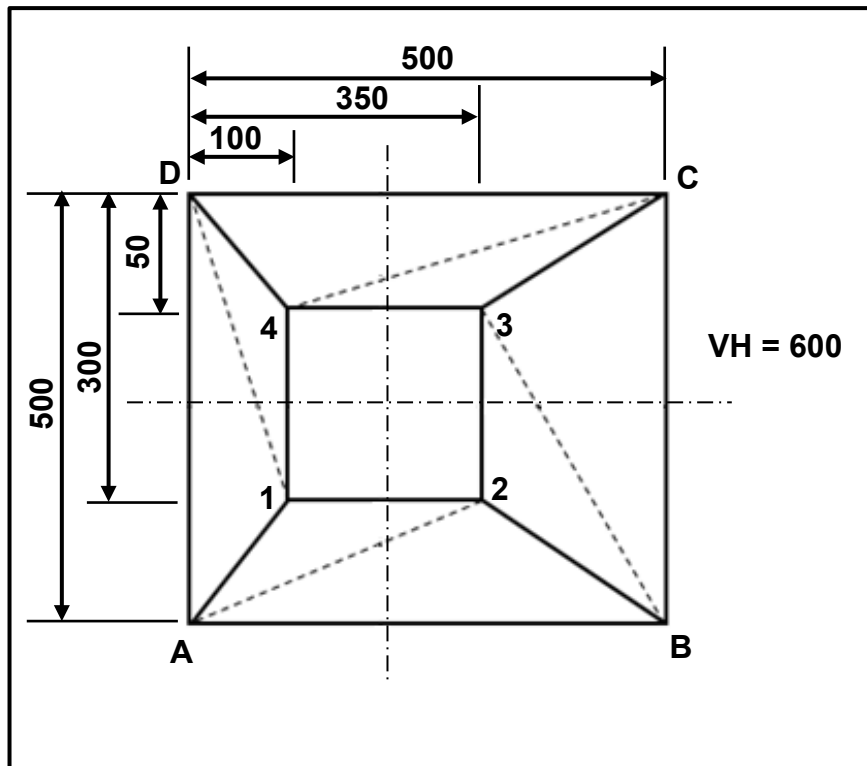

FIGURE 11.2
11.2 FIGURE 11.2 below shows a square-to-square off-centre hopper.